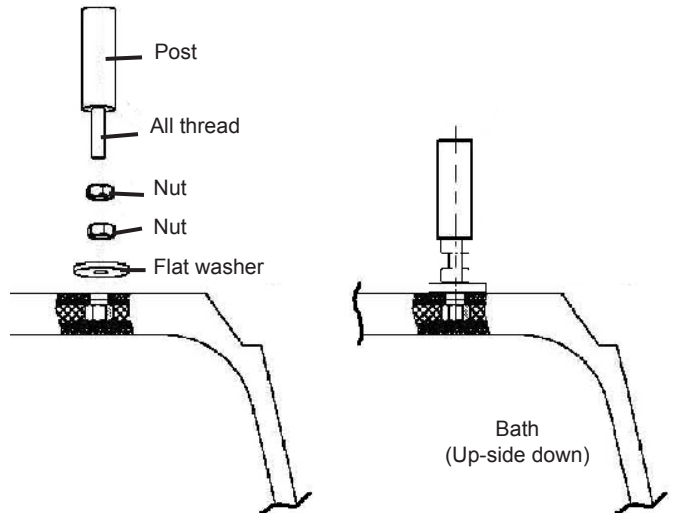

Figure 4. Attach Pedestal Legs
1. Turn the bath up-side down on a protective covering and install the pedestal legs at the bottom of bath, see Figure 4.